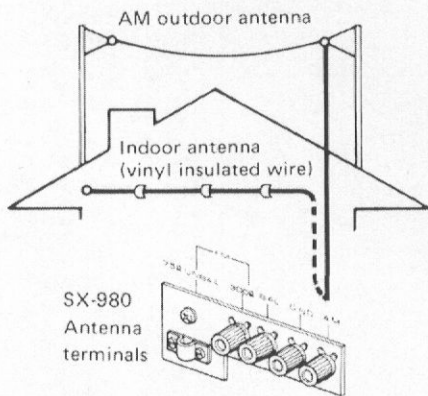

Fig. 8
- If you still cannot obtain good reception even by moving the AM bar antenna, erect an indoor AM antenna with a vinyl insulated wire (about 5-6 meters long). As shown in Fig. 8, connect the lead wire to the AM antenna terminal, and tape it to the wall or ceiling.
- If you live in an area where the reception is poor even if you erect an indoor AM antenna, use a tree to erect an outdoor AM antenna with a vinyl insulated wire (Fig. 8).